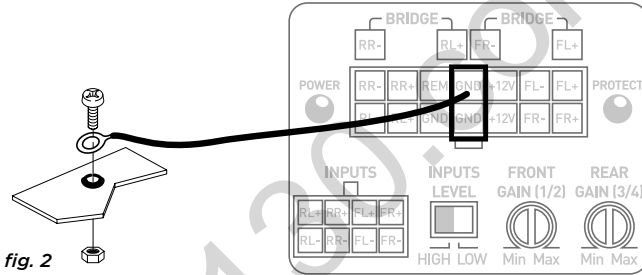

fig. 2
10. Prepare the chassis ground by scraping off any traces of paint on the metal surface in order to ensure proper grounding. The grounding connections should also be as short as possible and ALWAYS be connected to metal welded to the body or the chassis of the vehicle (*fig.2*). The ground point which is generally chosen is the one connecting the negative terminal of the battery to the chassis of the vehicle.
**3.3.2** - Get the negative power cable (-). This cable should be as short as possible and ideally shouldn't be any longer than 3ft (1m), to ensure a perfect connection between the amplifier and the chassis of the vehicle. The cable and wire gauge must comply with the table in section 3.1. Find a suitable grounding point, then sand it to remove any traces of paint or other coating in order to optimise the quality of the contact point. Drill a hole in the metal that you have previously sanded, making a hole the same diameter as the screw you are using, making sure that there are no fuel lines, cables or any other sensitive vehicle devices nearby. Solder the ground cable to the wiring harness supplied for your IMPULSE 4.320 amplifier and isolate using heat-shrink tubing (*fig. 2*).